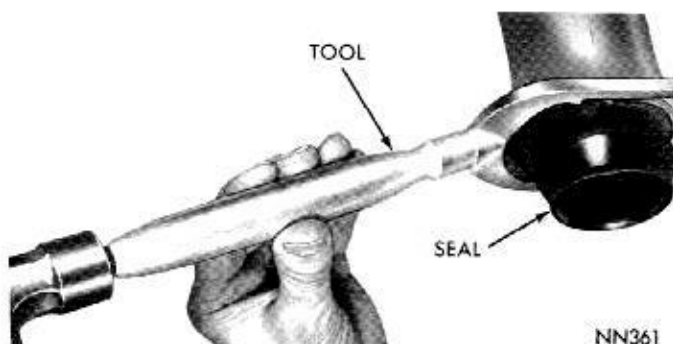

Fig. 17—Removing Extension Housing Yoke Seal
(2) Remove the extension housing yoke seal (Fig. 17) with Tool C-3994 or C-3985.